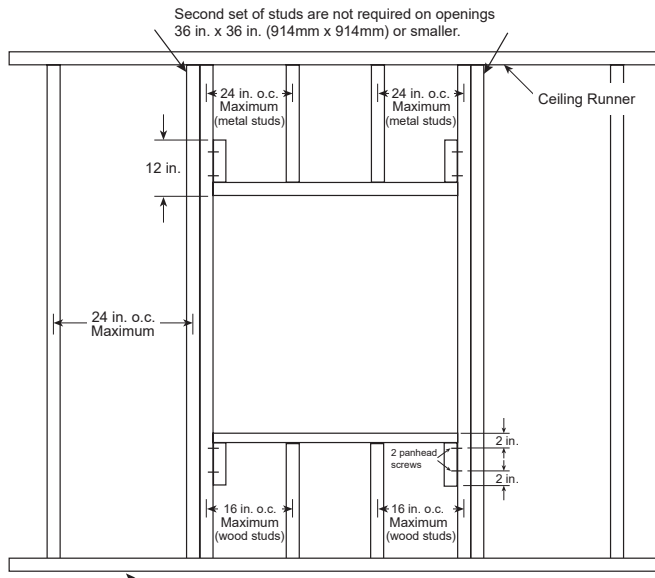

Figure 1
- Frame wall openings as shown below (see **Figure 1, 2, and 2A**).